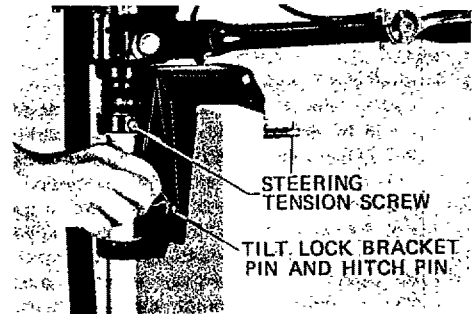

Figure 6
- c. The angle of the motor column is easily adjusted by removing the Hitch Pin and changing the Tilt Lock Bracket Pin in the three (3) different angle position holes located on either side of the right or left Transom Mounting Brackets. Each angle position elevates five (5) degrees. Try center hole position first. (See Figure 6).
Tighten steering tension screw using a screwdriver for desired steering effort. (See Figure 6).